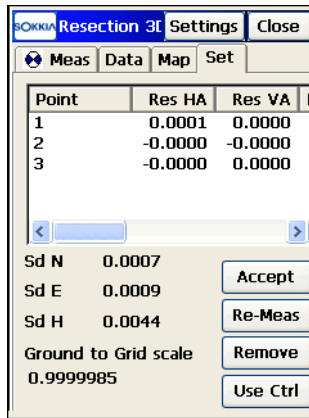

Figure 8-42. Set Tab
8. Open the *Meas* tab. On the **Resection 3D** screen, tap the **Accept** button (Figure 8-42). The coordinates of unknown points will be calculated.